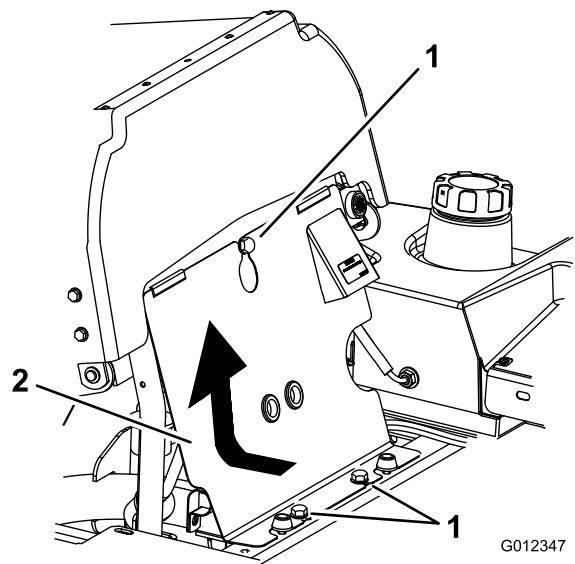

Figure 69
- Tilt the seat forward, loosen the bolts and remove the front engine panel (Figure 69).